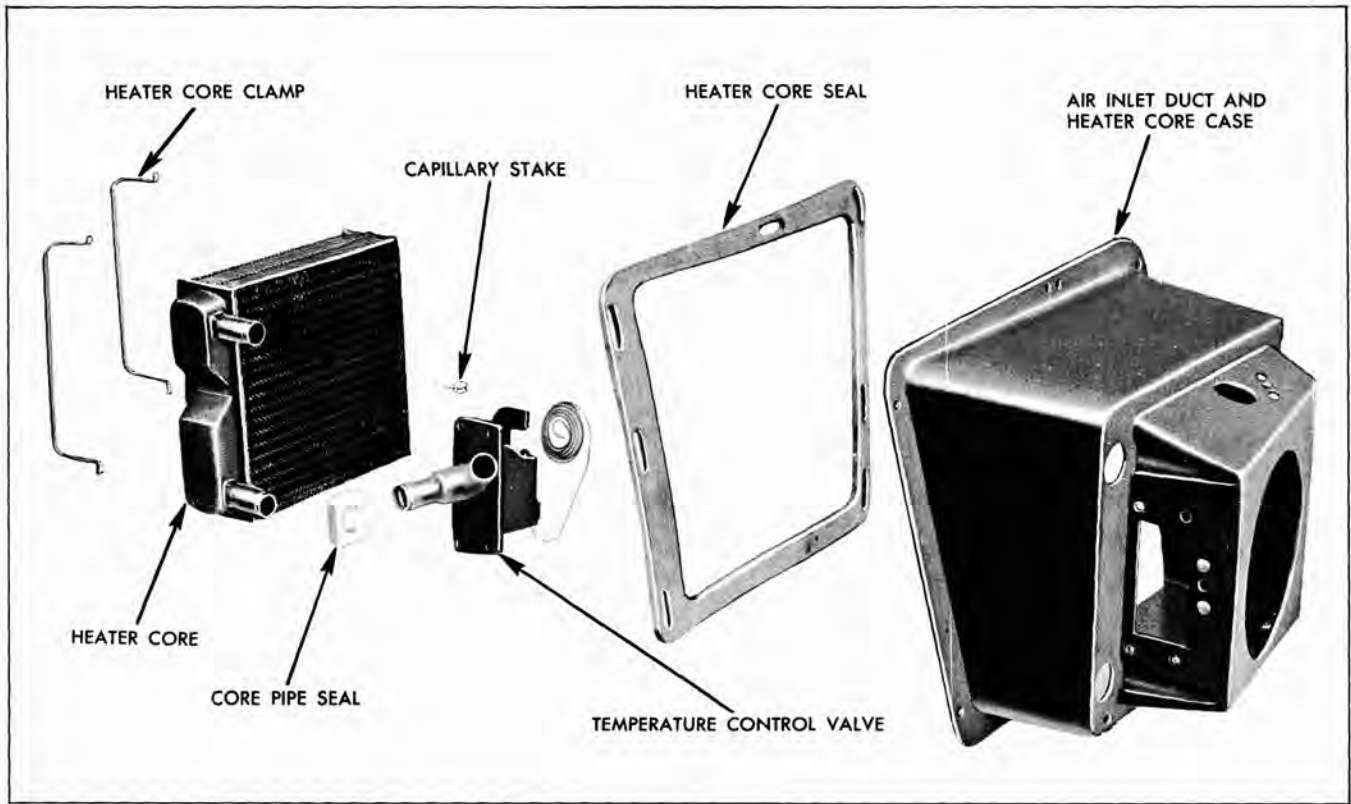

Fig. 2-21 Tempest Heater Air Inlet and Core Case Assembly—Exploded View
12. Replace by reversing the above procedure (Fig. 2-21).